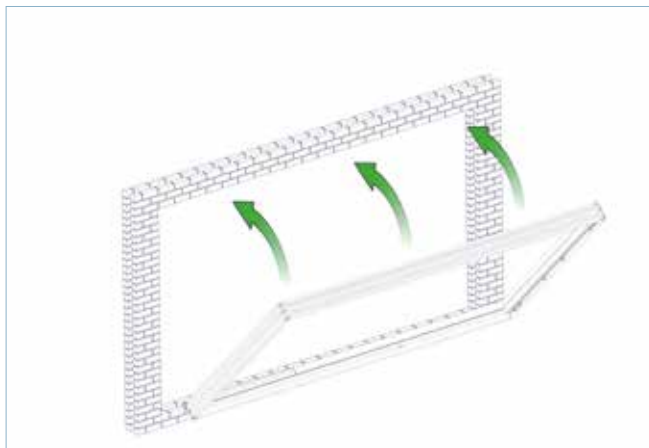

FIG 10
3. Offer the frame into the opening. Pack down above the top 2 corners to hold the frame in place (FIG 10 & 11)